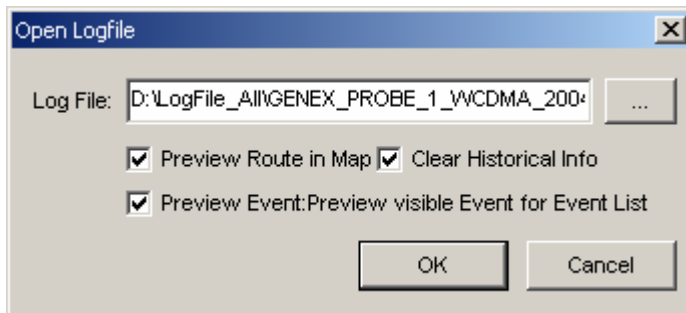

Figure 9-10 Opening Logfile dialog box
- 1) Click the unfold button to choose a log file, as shown in Figure 9-10.